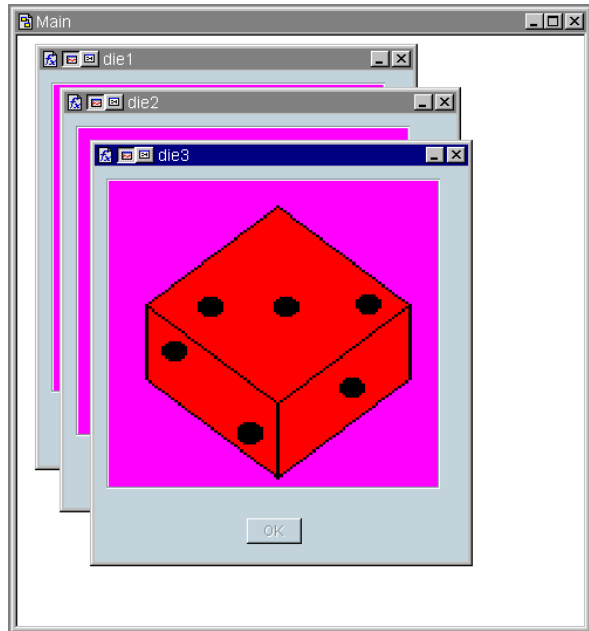

Figure 267 Early Stage in the Dice Program
- 7 Create two more UserFunctions by selecting Clone in the `die1` object menu. The new UserFunctions appear automatically as **die2** and **die3**. Change the picture objects to `die2.gif` and `die3.gif` respectively. Check all the settings of the new functions to make sure they match `die1` except for the names and bitmaps. The program should look like Figure 267. Iconize the function windows.